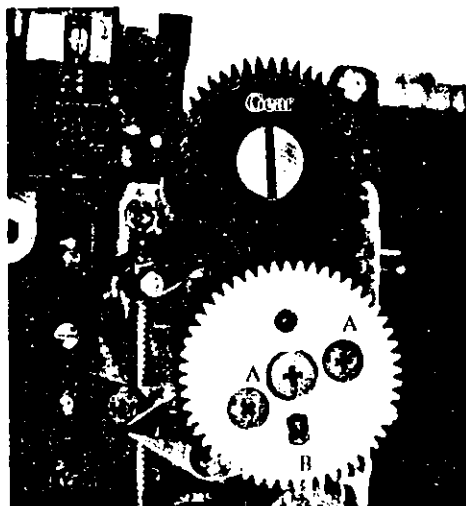
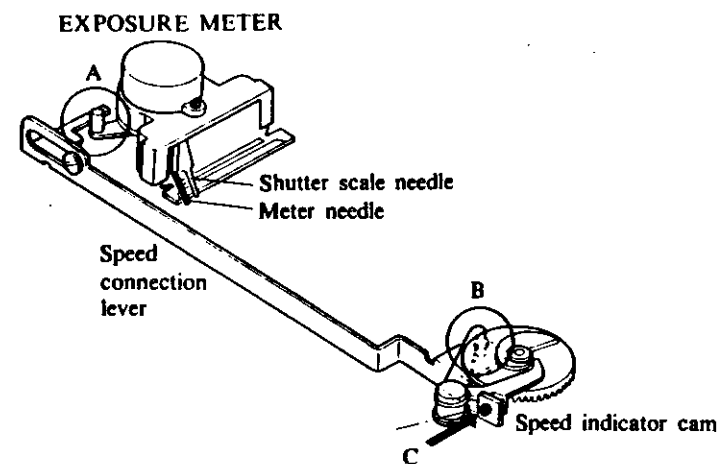

Fig. 1
Fig. 5
- 1) Set the shutter speed dial to BULB. (Fig. 1 indicates bulb position.)
- 2) Interlock the EXPOSURE METER, SPEED CONNECTION LEVER and the SPEED INDICATOR CAM, as in the case of parts A and B in Fig. 5 and engage the gears of the SPEED INDICATOR CAM and the SHUTTER (Fig. 1).
- 1) In case the shutter GEAR (Fig. 1) and the SPEED INDICATOR CAM (Fig. 5) are not engaged correctly, slightly raise the SPEED INDICATOR CAM and re-engaged them.
- 2) After re-engagement, confirm that the position of the SPEED CONNECTION LEVER is at the position A, B as shown in Fig. 5.
- 1) In case the difference of the shutter dial bulb position and that of the SPEED INDICATOR CAM bulb is one pitch or more, follow the instructions of NOTE (2) (1) (page 5), and re-engage them.
- 2) In case there is a slight difference in the position of the shutter dial bulb and that of the speed indicator cam bulb, adjust by loosening the screw of A in Fig. 1, turn the eccentric screw of B.